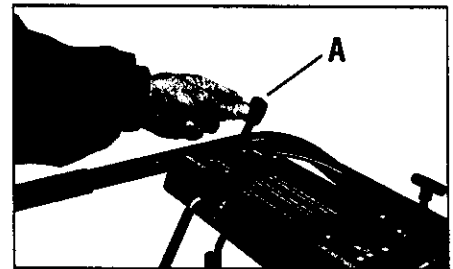

Figure 3-1: Wheel Gear Lever.
This lever (A, Figure 3-1) has two operating positions: ENGAGE and DISENGAGE.
**IMPORTANT:** The Forward Clutch Levers are connected to a mechanical interlock feature that automatically shifts the separate Wheel Gear Lever (A, Figure 3-1) into ENGAGE position when either of the Forward Clutch Levers is lifted up against the handlebars to engage power to the wheels and tines. This is a safety feature designed to prevent the wheels from being in DISENGAGE (freewheel) position when the tines are rotating.